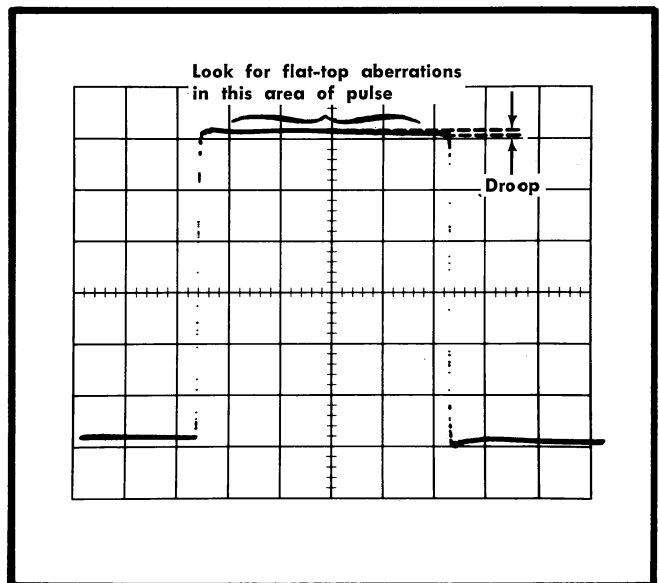

Fig. 5-7. Typical sampling-system display showing flat-top aberrations and droop.
- c. CHECK—Sampling-system display for aberrations (between the first 10 nanoseconds and last 15 nanoseconds of pulse) 0.12 division or less (see Fig. 5-7).
- d. CHECK—Sampling-system display for droop 0.06 division or less (see Fig. 5-7).